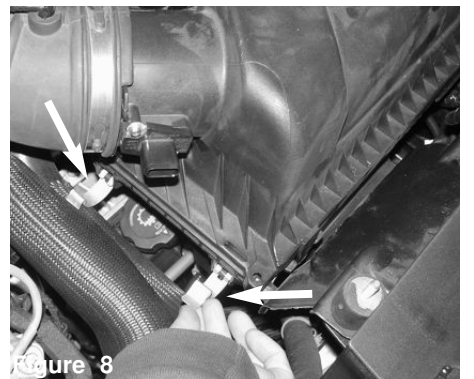

Figure 8
**Figure A:** Remove the factory filter panel from the lower portion of the air box assembly. **Figure B:** Flip the two retaining clips from figure 8 inwards to secure them. The lower air box assembly will be retained